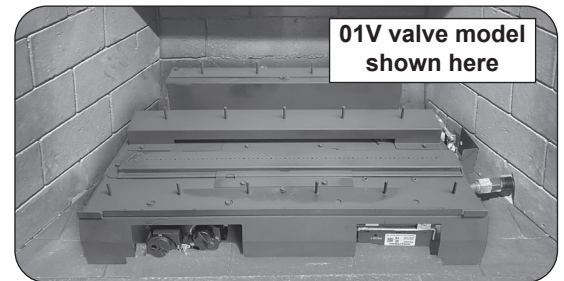

Fig. 17-2 Center burner in fireplace
3. Place the burner system in the fireplace. Center the burner from left to right in the fireplace. See Fig. 17-2.